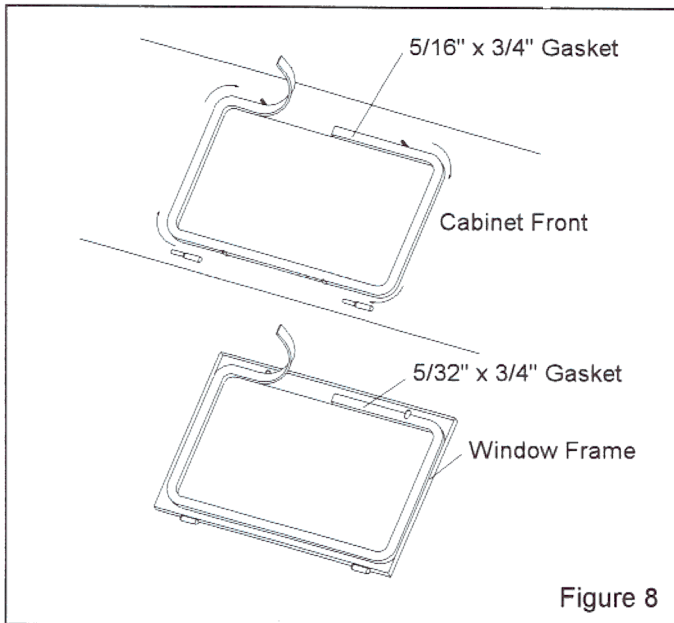

Figure 8
7.4 Window Gasket Replacement, Figure 8
7.4.4 Peel a short section of adhesive backing from the 5/16" thick strip gasket, and adhere the gasket to the center of the top edge of the window opening as shown in Figure 8. Peel additional backing as needed, and work the strip around the radius of each corner, pressing it tightly to bond. Trim the gasket to fit and compress the ends to seal.